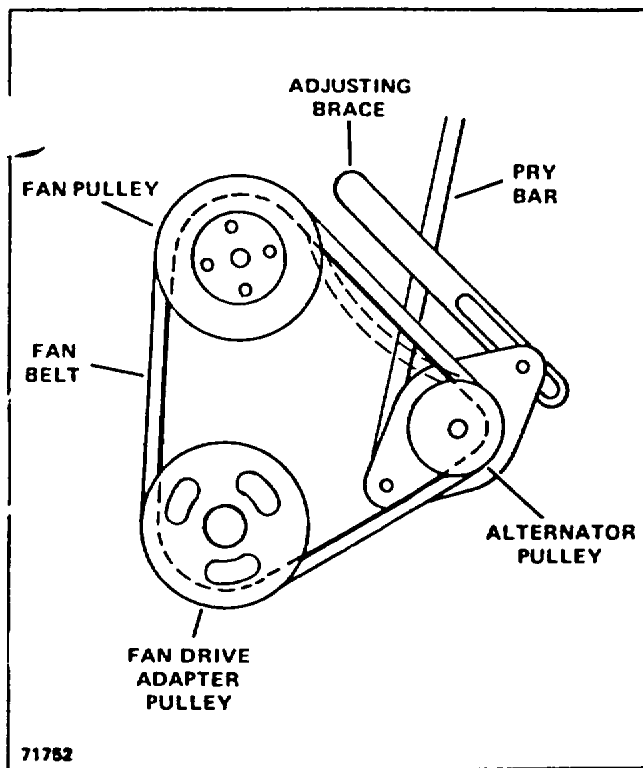

Figure 9. Fan Belt Adjustment
3. Force the alternator away from the engine with a long-handled screwdriver or pry bar, until the fan belt has approximately 1/2" to 3/4" deflection at a point half way between the fan pulley and the alternator pulley with about 10 lbs. applied force (Figure 9).
2. Force the alternator away from the engine with a long-handled screwdriver or pry bar, until the fan belt has approximately 1/2" to 3/4" deflection at a point half way between the fan pulley and the alternator pulley with about 10 lbs. applied force (Figure 9).